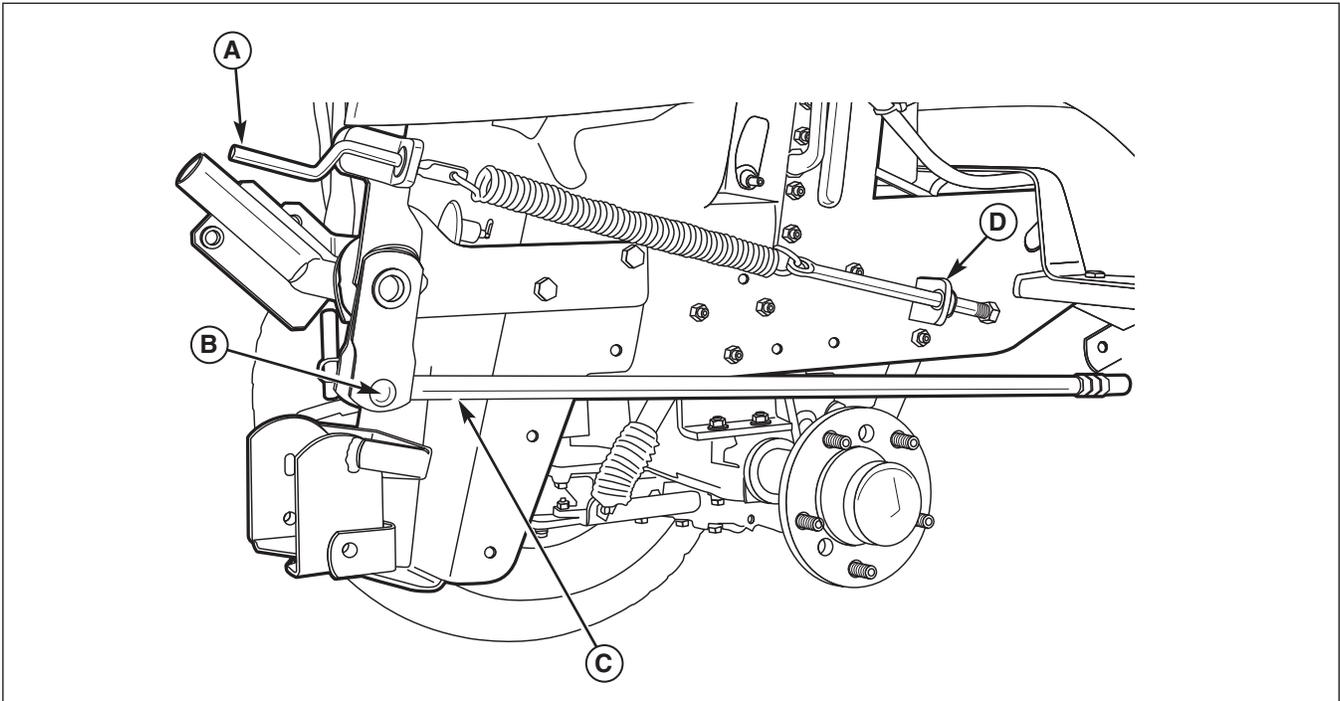

Figure 11. Lift Linkage Installation
1. Connect the rear of the lift rod (C, Figure 11) to the upper hitch. Secure with a clevis pin (B) and safety clip.
3. Mount the front bracket (D, Figure 11) to the frame using a 5/16-18 x 1 capscrew and nylock nut.
4. Secure the rear turn crank assembly (A, Figure 11) to the rear hitch using 3/8-16 x 1 carriage bolt and nylock nut.
5. Hook the spring to the turn crank (A) and put the threaded rod through the front bracket (D). Turn the crank until the nut is captured in the front bracket.